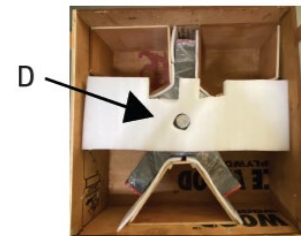

Fig. 26
3. Remove thermocole sheet shown as D in Fig. 26.